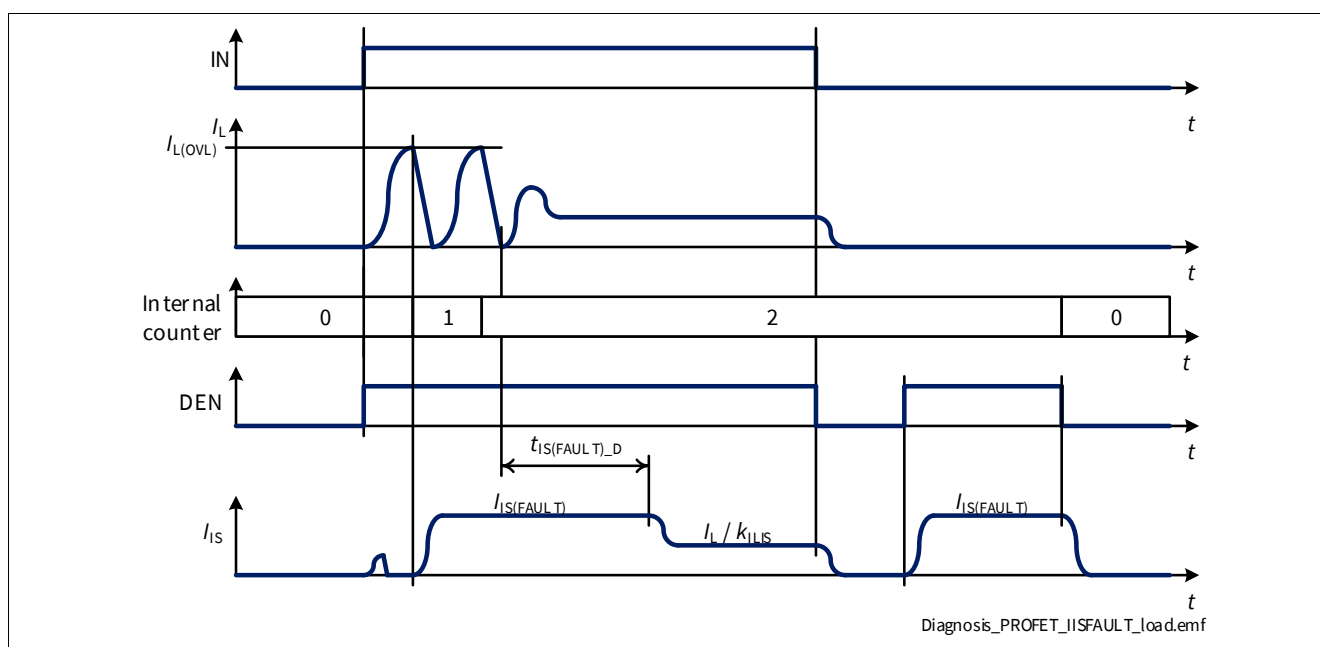

Figure 35 $I_{IS(FAULT)}$ at Load Switching
- If the channel is ON and the number of retries is lower than “ $n_{RETRY(CR)} + n_{RETRY(CYC)} * n_{RETRY(NT)}$ ”, the current $I_{IS(FAULT)}$ is provided for a time $t_{IS(FAULT)_D}$ after the channel is allowed to restart, after which $I_{IS} = I_L / k_{ILIS}$ (as shown in Figure 35). During a retry cycle (while timer t_{RETRY} is running) the current $I_{IS(FAULT)}$ is provided each time the channel diagnosis is checked